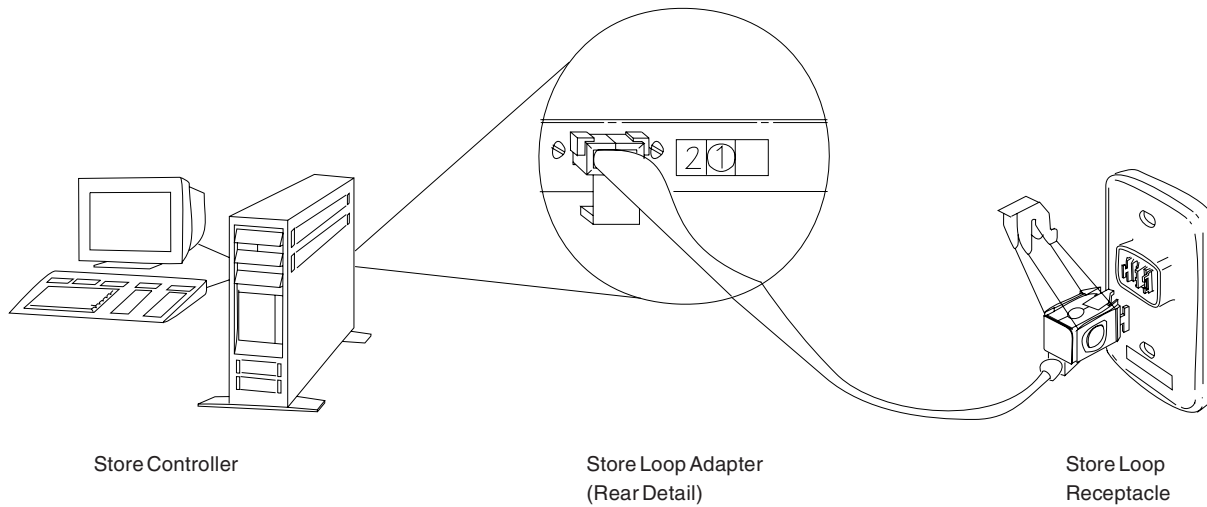

Figure 27. Store Controller Store Loop Adapter and Store Loop Receptacle
- Disconnect the backup store controller from the store loop by unplugging its store loop cable from the store loop receptacle. See Figure 27 on page 464.